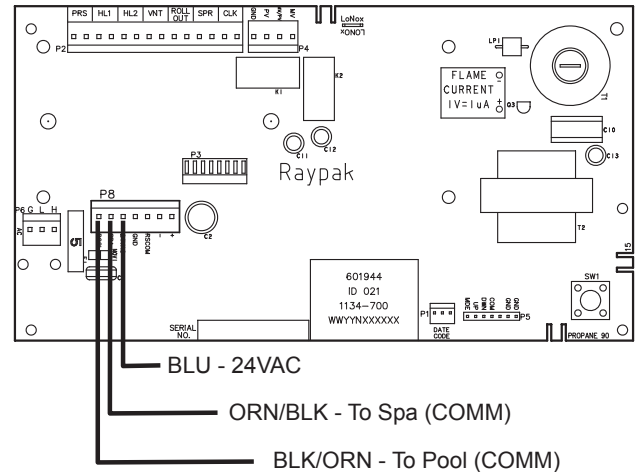

Figure 55. 3-Wire Remote Harness Installation on the P8 Connector of the Board
- Install the "Remote Interface Harness" to the P8 connector and turn power ON to the heater. See **Figure 55**.